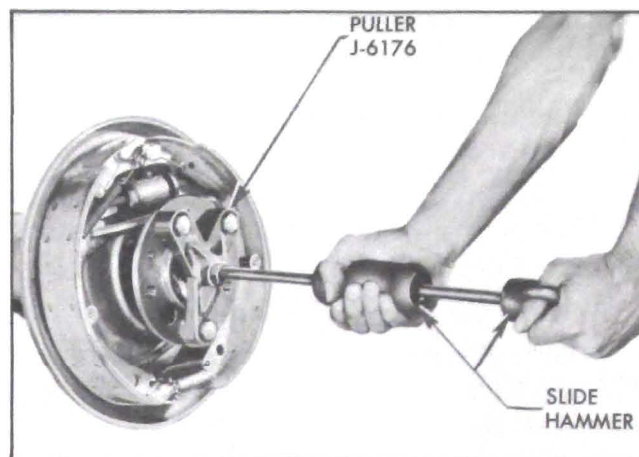

Figure 6-3—Removing Rear Axle Shaft
4. Pull out axle assembly using Puller J-6176 with a slide hammer. Be careful not to disturb brake backing plate. See Figure 6-3.